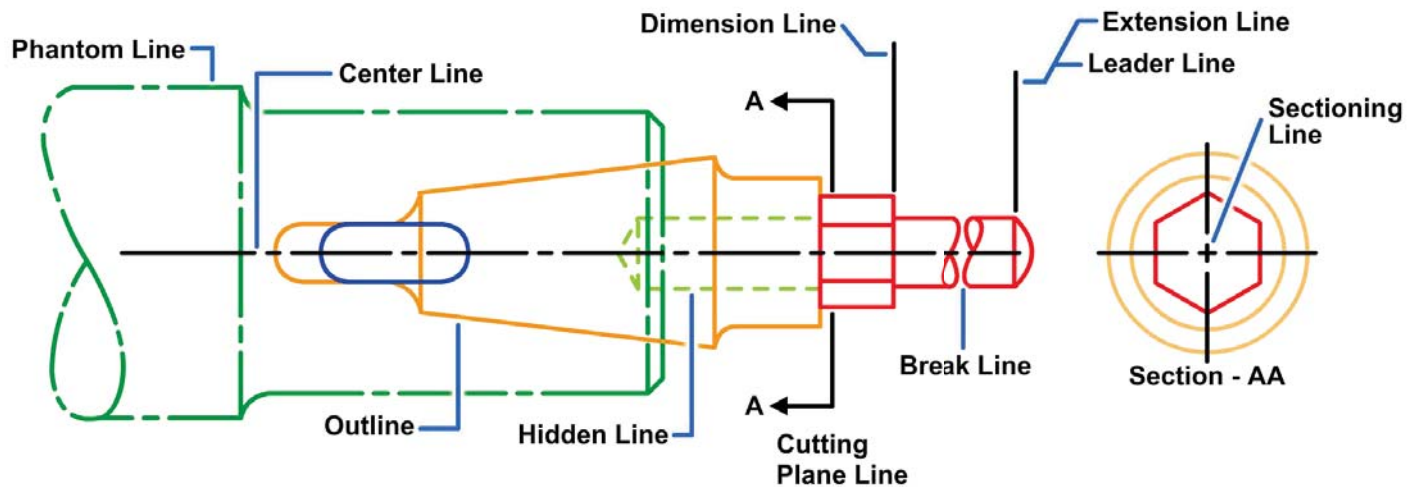

Figure 1-4 — Finish marks.
Finish marks (P) (*Figure 1-4*) used on machine drawings show surfaces to be finished by machining. Machining provides a better surface appearance and a better fit with closely mated parts. Machined finishes are NOT the same as finishes of paint, enamel, grease, chromium plating, or similar coatings.
To read blueprints, you must understand the use of lines. The alphabet of lines is the common language of the technician and the engineer. In drawing an object, the different views are arranged in a certain way, and then different types of lines convey the information. The use of standard lines in a simple drawing is shown in *Figure 1-4*. Line characteristics, such as width, breaks in the line, and zigzags, have meaning, as shown in *Figure 1-8*.